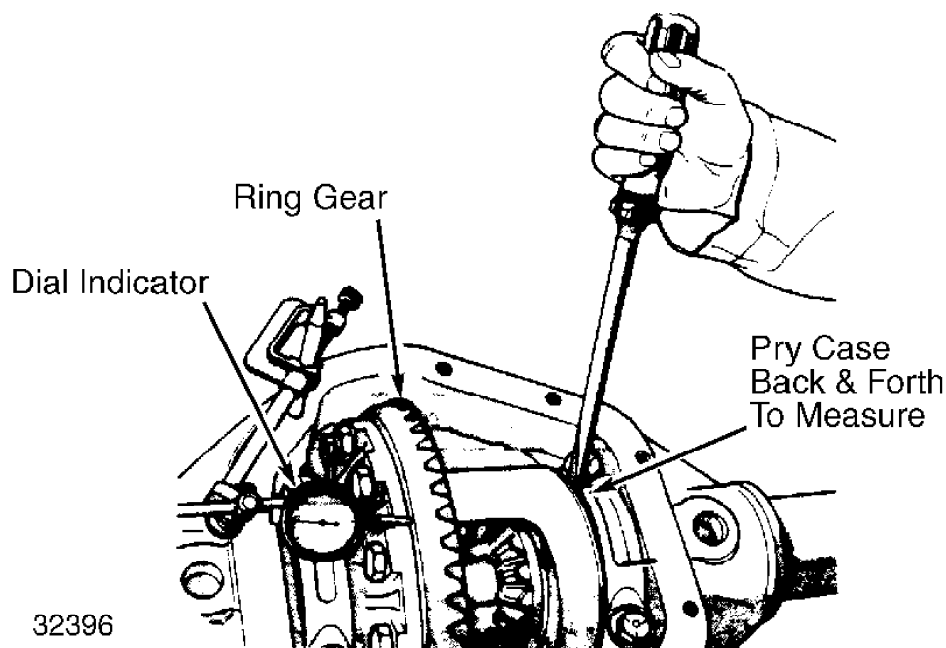

Fig. 13: Measuring Differential Case End Play
9) Pry case assembly to one side of carrier. Zero dial indicator and pry case in opposite direction. See Fig. 13. Record reading. This indicates thickness of shim pack necessary to eliminate clearance between case and side bearing races.
on case. Set up dial indicator in same position as when case end play was checked. See Fig. 13. Press ring gear toward pinion head while rocking ring gear so teeth mesh fully. Zero dial indicator while holding ring gear into pinion gear.